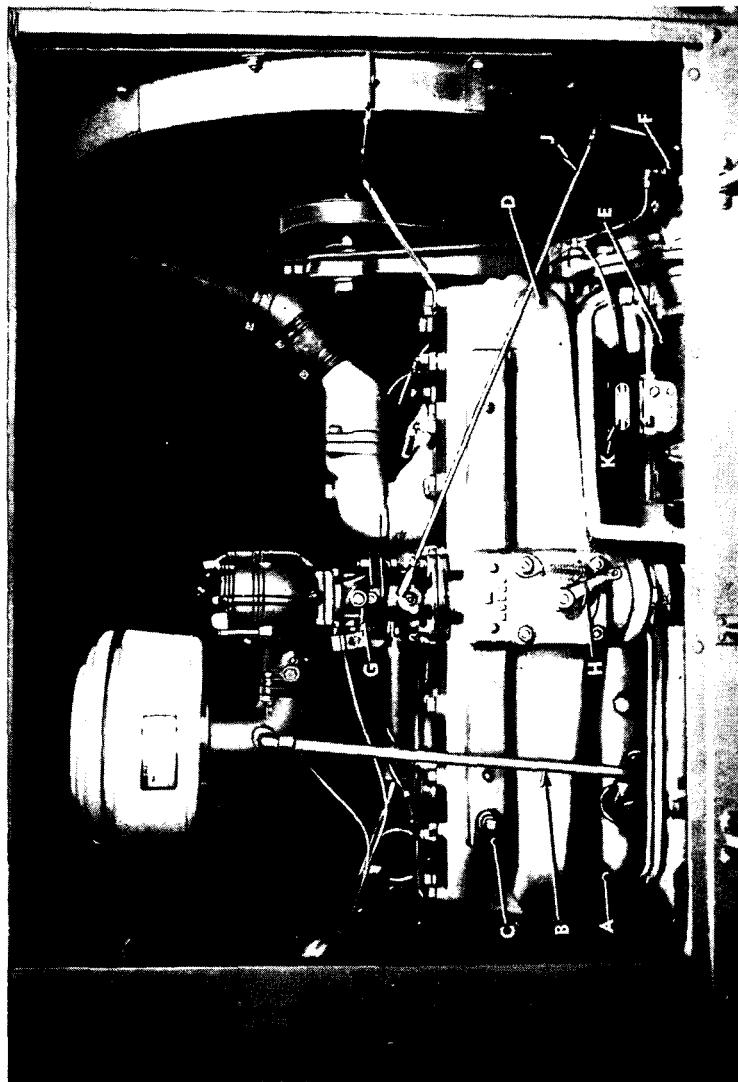

Figure 18—Engine—Right Side
(3) **MANIFOLD.** The combination exhaust and intake manifold is on the right side of the engine block (fig. 18).
(7) **THROTTLE BOX.** The throttle box is mounted on the intake section of the manifold at right of engine (fig. 18).